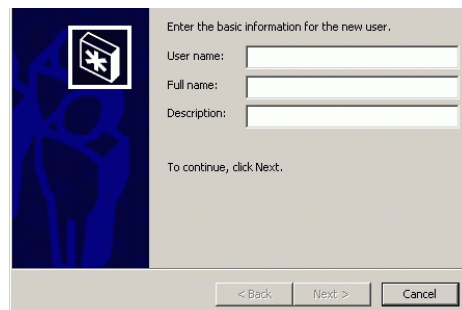

Figure 2-24 Add New User Wizard (First Window)
1. At the *Users and Passwords* dialog box, click *Add*. The first window of the *Add New User* wizard displays (Figure 2-24).